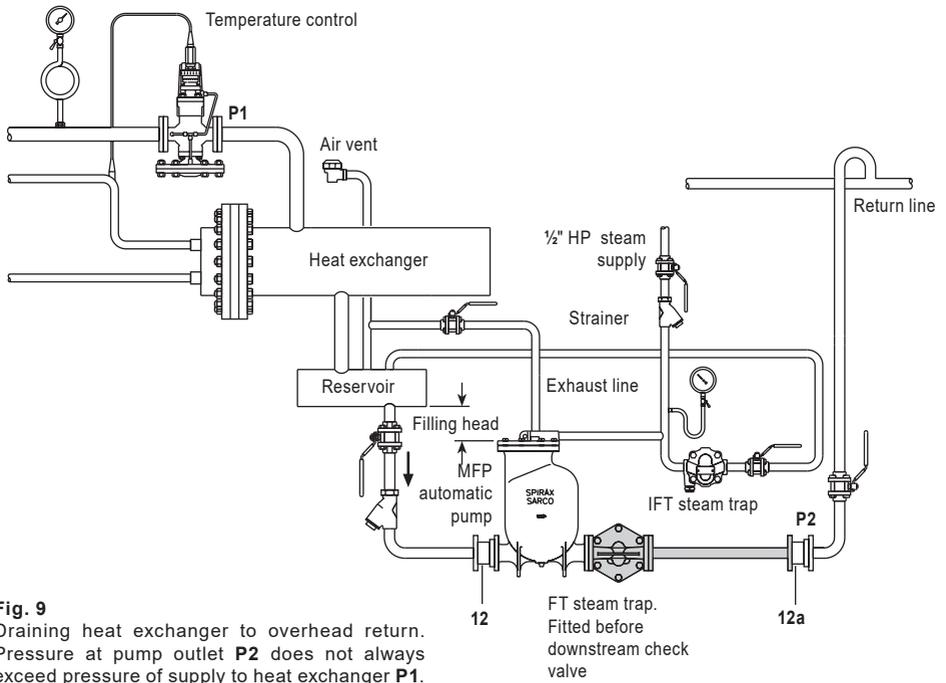

Fig. 9
6. If, at any time, the backpressure against the pump is less than the pressure in the equipment being drained, a properly sized float and thermostatic trap must be installed between the pump and discharge check valve as shown in Fig. 9.